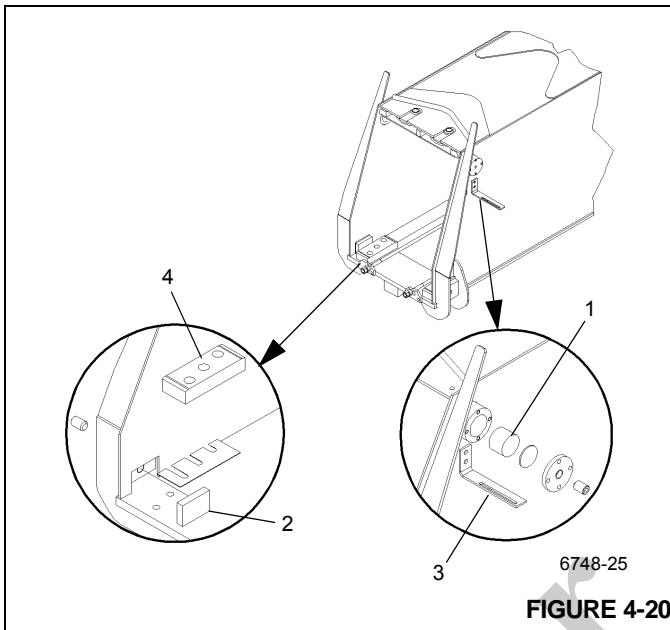

FIGURE 4-20
6. Remove the screws securing each top (Figure 4-20, 1) and bottom side wear pads (Figure 4-20, 2) at the front of the inner mid. Remove wear pads, shims. Keep the shims with each individual wear pad for re-installation.
7. Remove the RCL cable guide mounting angle (Figure 4-20, 3) (top left side only).
8. Lift up on the front of the assembly and remove the wear pad bolts and wear pads (Figure 4-20, 4) from the bottom of the inner mid. (Figure 4-20)